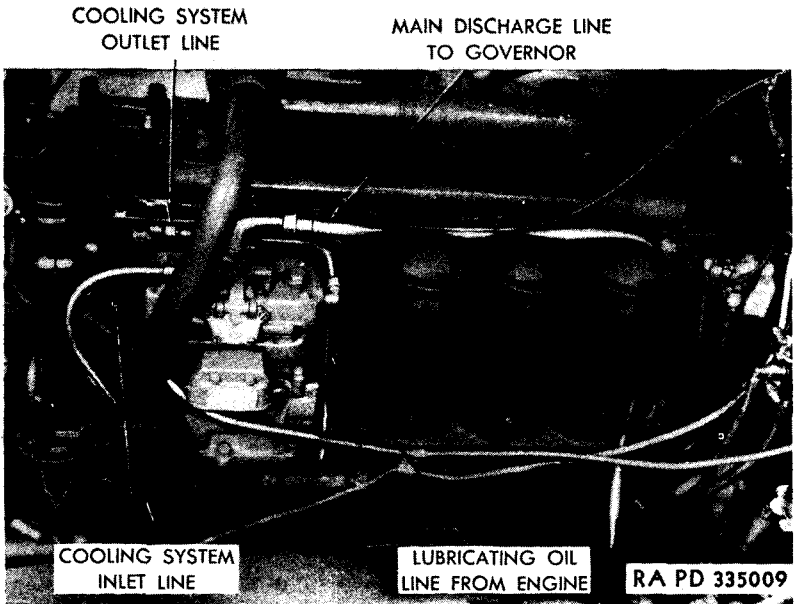

Figure 48—Air Compressor Lines Installed
h. Remove Air Compressor Lines at Compressor End (fig. 48). Loosen main air pressure line coupling nut (large tube at top of air compressor) and bend tube back over the left fender. Loosen coupling nut on connection at front top of compressor head, also the coupling nut at front of airline junction block (to left of series parallel starter switch on dash). Lift out air compressor to governor airline.